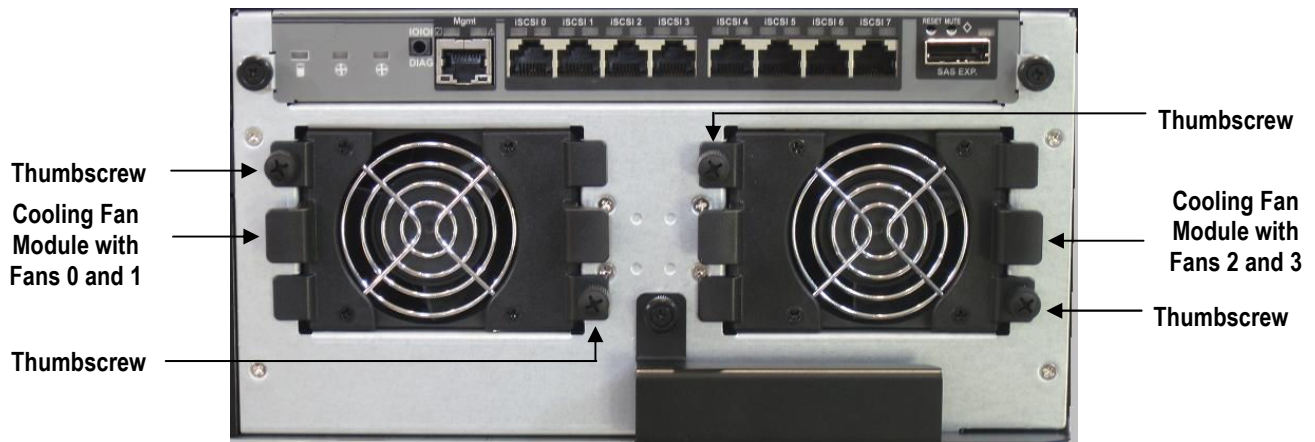

Figure A-2. Removing a Cooling Fan Module
2. Loosen the two thumbscrews for the cooling fan module, as shown in Figure A-2.